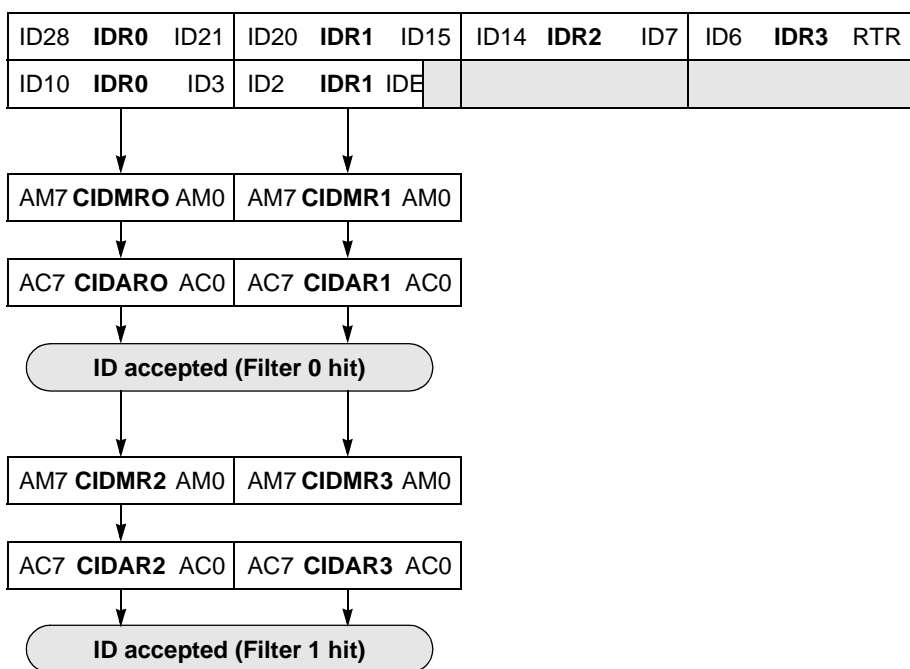

Figure 44 16-bit Maskable Acceptance Filters
- Four identifier acceptance filters, each to be applied to a) the 11 bits of the identifier and the RTR bit of CAN 2.0A messages or b) the 14 most significant bits of the identifier of CAN 2.0B messages. Figure 44 shows how the first 32-bit filter bank (CIDAR0–3, CIDMR0–3) produces filter 0 and 1 hits. Similarly, the second filter bank (CIDAR4–7, CIDMR4–7) produces filter 2 and 3 hits.